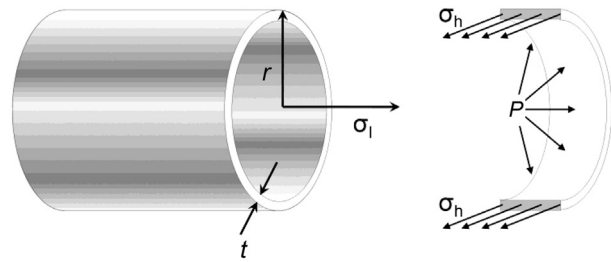

Figure 1.7 Illustration of hoop stress.
circumferentially. Figure 1.7 shows stresses caused by pressure (P) inside a cylindrical vessel. The hoop stress is indicated in the right side of Figure 1.7 that shows a segment of the pipe.
If the pipe is closed on the ends, any force applied to them by internal pressure will induce an *axial or longitudinal stress* (σ_l) on the same pipe wall. The longitudinal stress under the same conditions of Figure 1.7 is given by Eq. (1.6)